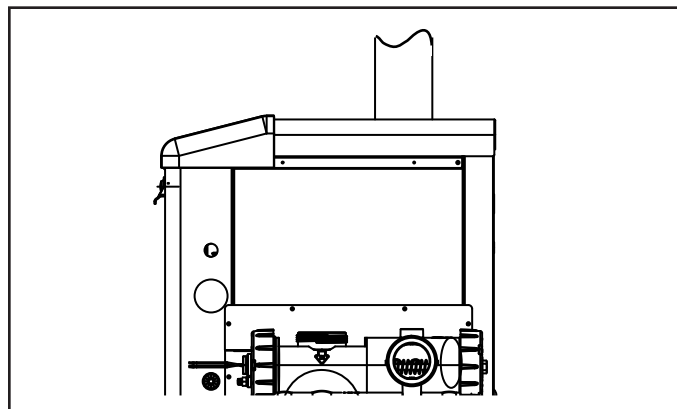

Figure 6. Vent Pipe Installation
2. Install the vent pipe on the indoor vent collar. The collar will accommodate vent piping of nominal 6", 7" or 8" diameter, see Table 4, depending upon the model of your heater. See vent installation section for important information on selecting proper pipe size. See Figure 6.